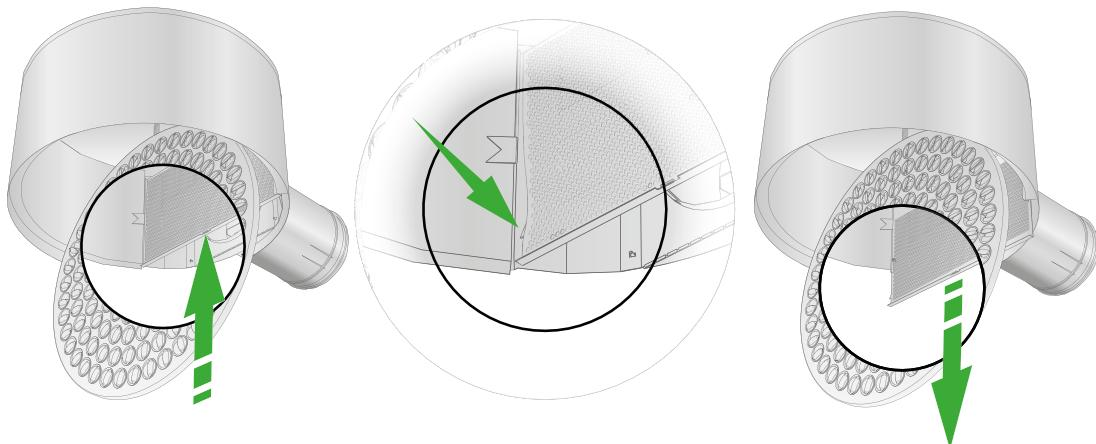

Figure 3. Dismantling of perforated air distribution plate.
- Dismantle the perforated air distribution plate located on the inlet as shown in figure 3.